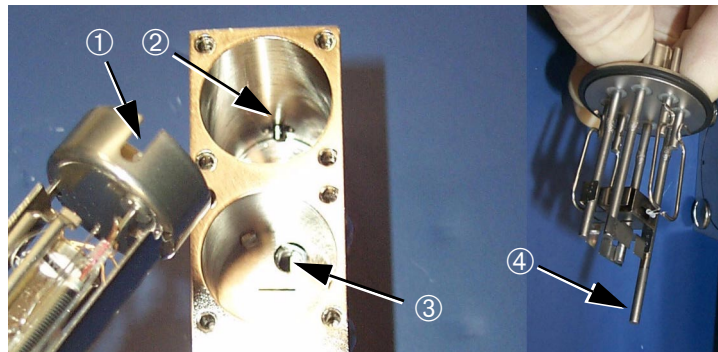

Figure 5-24 Spectrometer Tube Reassembly
30. Carefully reassemble the spectrometer tube (Figure 5-24) in the reverse order of these instructions.
11. Replace the ground slit plate (see Figure 5-24).
12. Replace the ion source (see Figure 5-24).
The ground slit plate has a hole in it that must be aligned with the hole on the bottom of the spectrometer tube body ion source cavity ③ (Figure 5-24 on page 5-17).
The ion source must be aligned so that its alignment pin ④ (Figure 5-24) falls in the center of this hole.